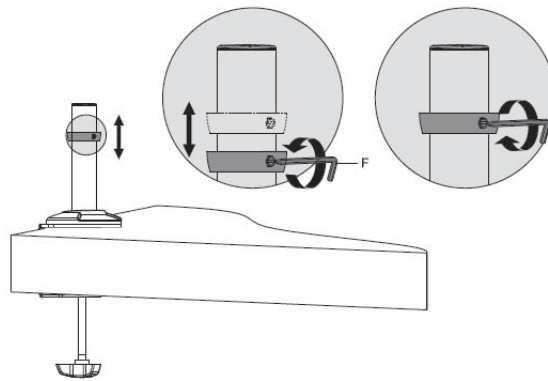

Figure 2a
3. Install the Position Ring at the desired height and tighten the screw using 3mm Allen Key (F) or screwdriver, see Figure 2a.